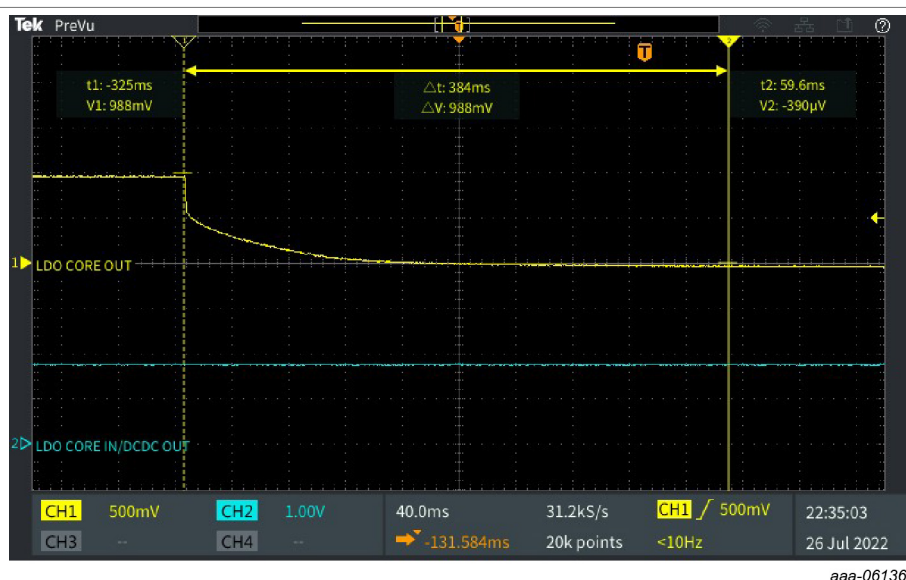

Figure 10. LDO core shutdown time
Figure 10 shows the LDO core shutdown time:
- In Figure 10, the yellow curve represents LDO_CORE_OUT and the blue curve represents LDO_CORE_IN/DCDC_OUT.